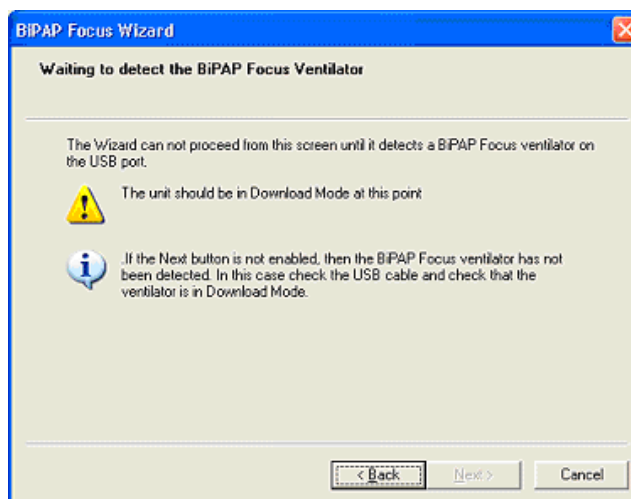

Figure 6-22: Powering Up the Ventilator
3. Once the ventilator and PC are connected, power up the ventilator while holding down the Up and Down arrow buttons until the ventilator displays the message Waiting to detect the BiPAP Focus Ventilator (Figure 6-22). Click **Next**.